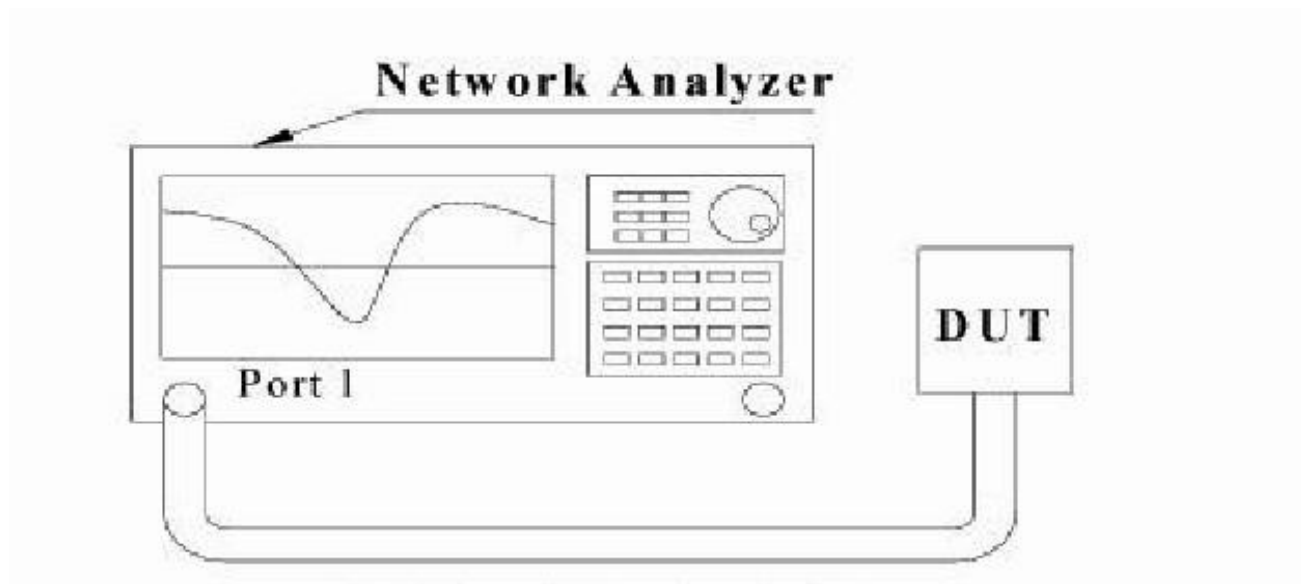

Fig. 1 Measure S11 on Network Analyze
- (I) Calibrate the Network Analyzer by one port calibration using Agilent calibration kits.
- (II) Connect the antenna under test to the Network Analyzer
- (III) Measure the S11 (reflection coefficient) shown in Fig.1